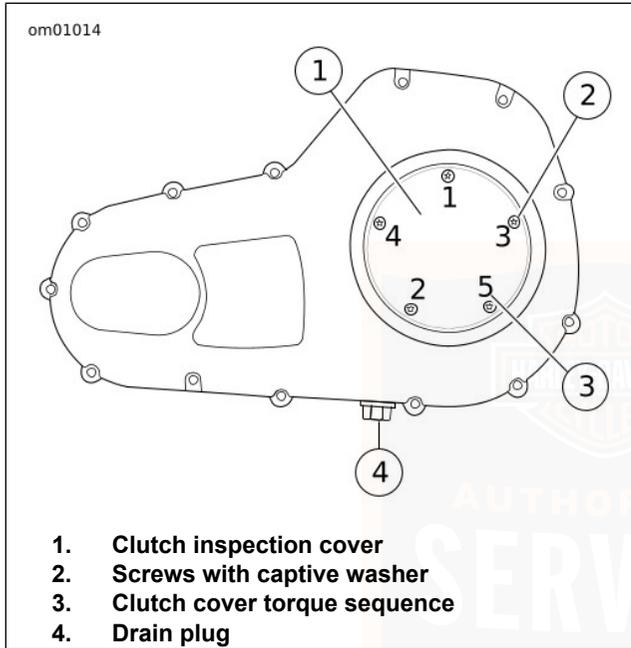

Figure 47. Primary Chaincase Cover
3. See Figure 47. Remove clutch inspection cover from primary chaincase cover.
2. See Figure 47. Remove clutch inspection cover from primary chaincase cover.
9. See Figure 47. Install clutch inspection cover. Tighten screws in the sequence shown to 9.5–12.2 N·m (84–108 **in-lbs**).